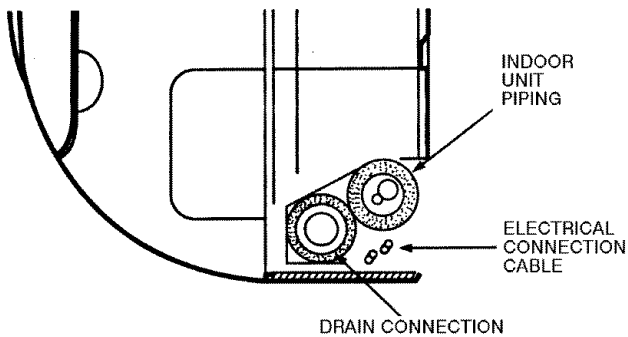

Fig. 10 — Drain Connection (Right Side Shown When Facing Fan Coil Unit)
1. Connect the drain line by inserting a 5/8-in. (inside diameter) rigid PVC pipe over the drain connection. Refer to Fig. 10.